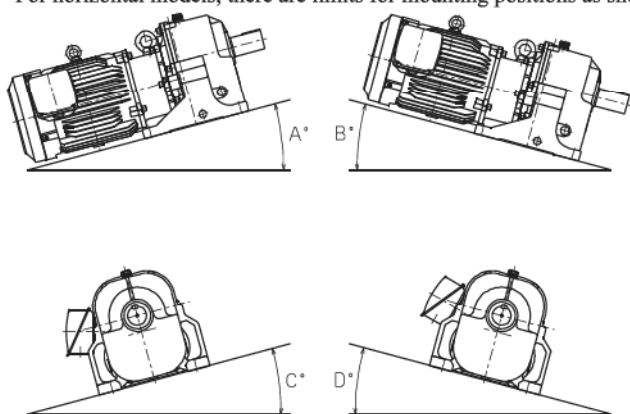

Fig. 1 Limits of angularity
- (1) When lifting the geared motor equipped with eyebolts or eyeplates, be sure to use the eyebolts or eyeplates to lift and transfer.
- (2) If the surrounding equipment must avoid oil or grease, supply the geared motor with protective devices, such as oil pan, in order to protect them from oil leakage caused by failure of the geared motor or from lifting the geared motor.
- (3) Safe guards should be furnished around the rotating parts of the geared motor to avoid danger to personnel.
- (4) Install in a location with these conditions: clean and dry, ambient temperature -15~+40°C, humidity below 80% and no possibility of freezing.
- (5) Install on a foundation that has high thermal conductivity and enough rigidity with bolts of Bolt Strength Class higher than 8.8. The flatness degree of the mounting surface should be equal to or less than 0.2mm
- (6) For horizontal models, there are limits for mounting positions as showed in Table 3 and Fig. 1.